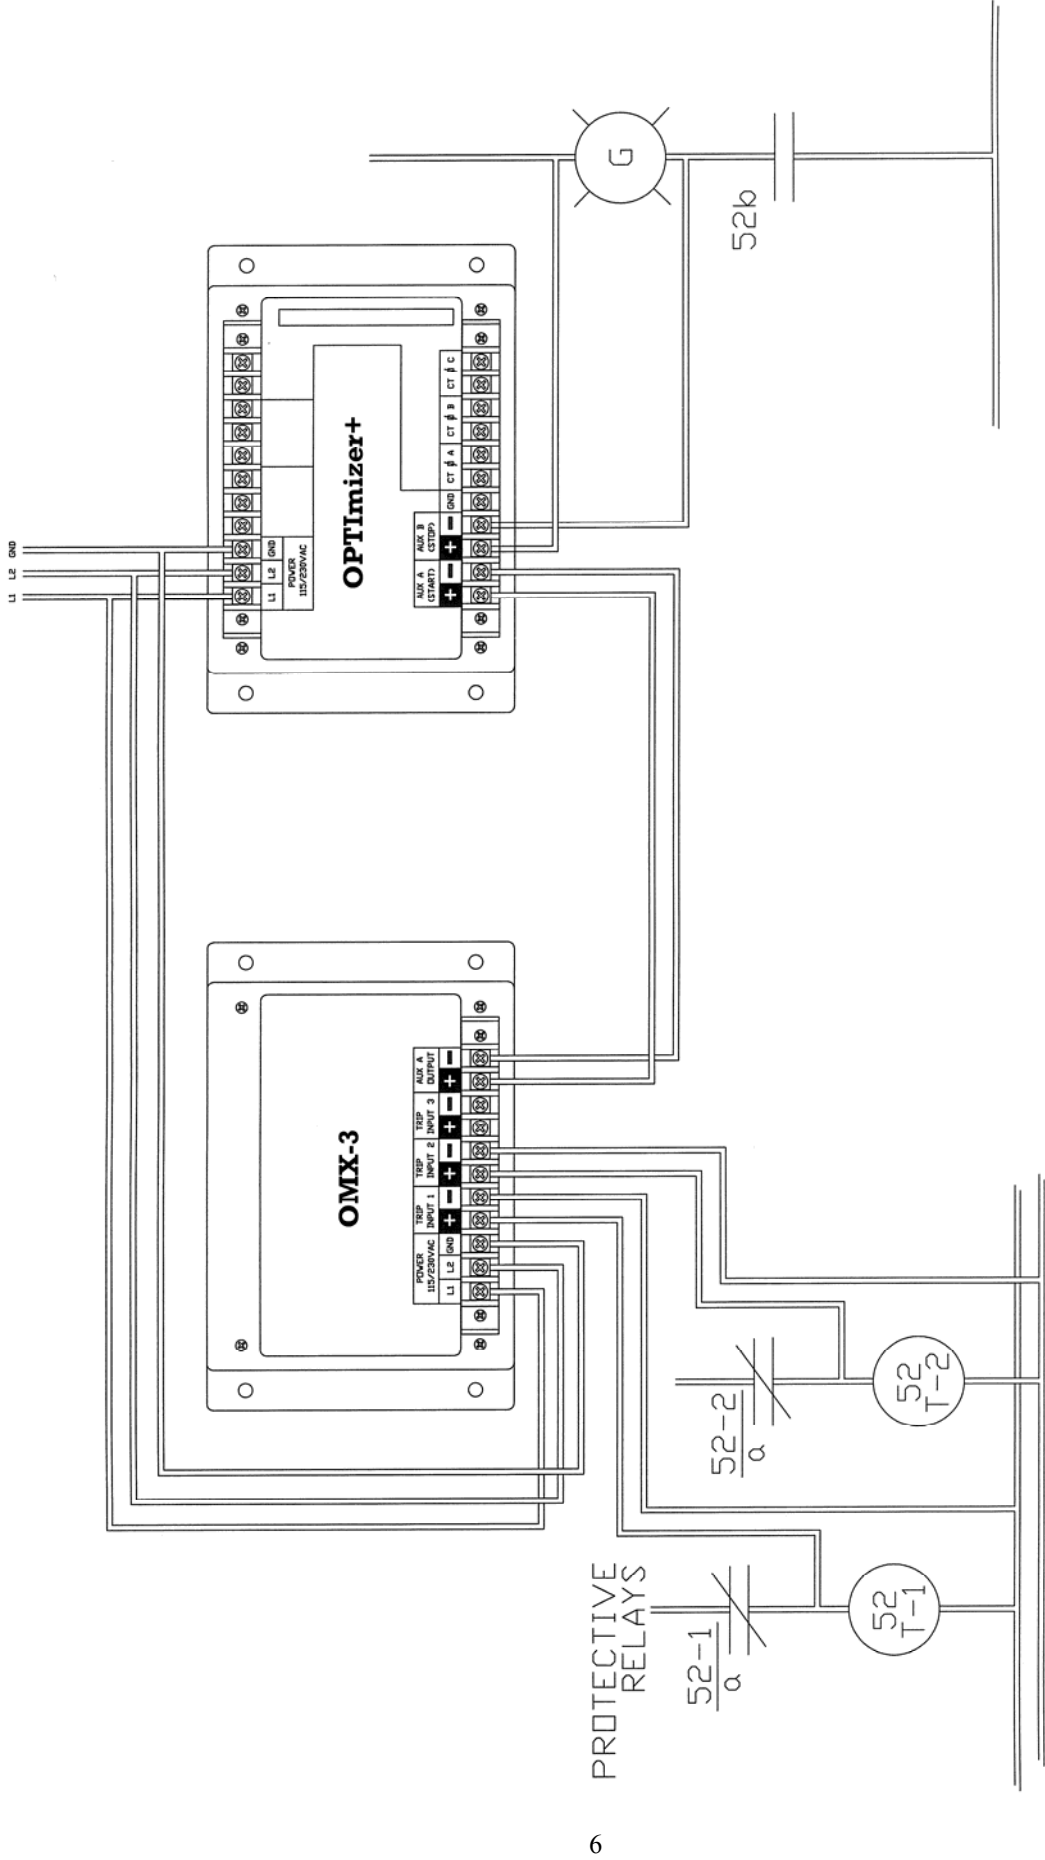

Figure 1.2 Field Wiring Diagram: Single Mechanism with Redundant Trip Circuits
1. **Single Mechanism, with Redundant Trip Circuits (Figure 1.2) – Short**